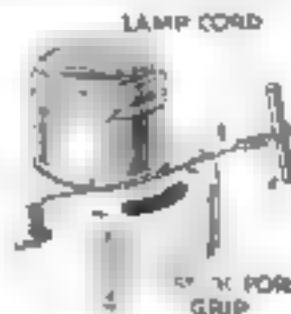

Fig. 7. Ingenious arrangement of two mason jars to serve as an air moistener. The second jar prevents any of the water from being drawn into the cylinders
ONE of the objections to the ordinary way of building a moistener for the air that goes into the manifold of your motor is that there is a chance, when the car goes over a bump, of the water's splashing up and being drawn into the manifold in the liquid state. By building your air moistener in two mason jars as shown in Fig. 7, the second jar acts as a water trap. In operation, the suction of the manifold causes a constant stream of air to flow from the nozzle in the first jar and come up through the water in the form of fine bubbles. The amount of water vapor absorbed by the air is in proportion to the size of the bubbles; the smaller the bubbles, the more nearly the air drawn through the jar approaches the saturated state.
M. L. BURGHAM, of Paramus, N. Y., wins the \$10 prize this month for his suggestion of an air moistener (Fig. 7). Each month POPULAR SCIENCE MONTHLY awards \$10 in addition to regular space rates to the reader sending in the best idea for motorists. Other published contributions will be paid for at usual rates.